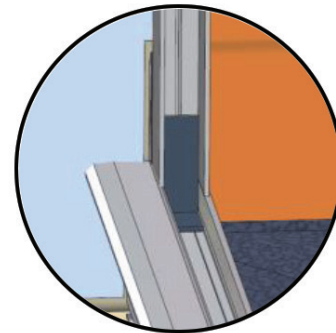

FIG 8.
- Slide wall channel on top of floor channel, making sure they butt up to each other and insert channel connector inside 'wall to floor' joint to help line up the wall channel (FIG 8).